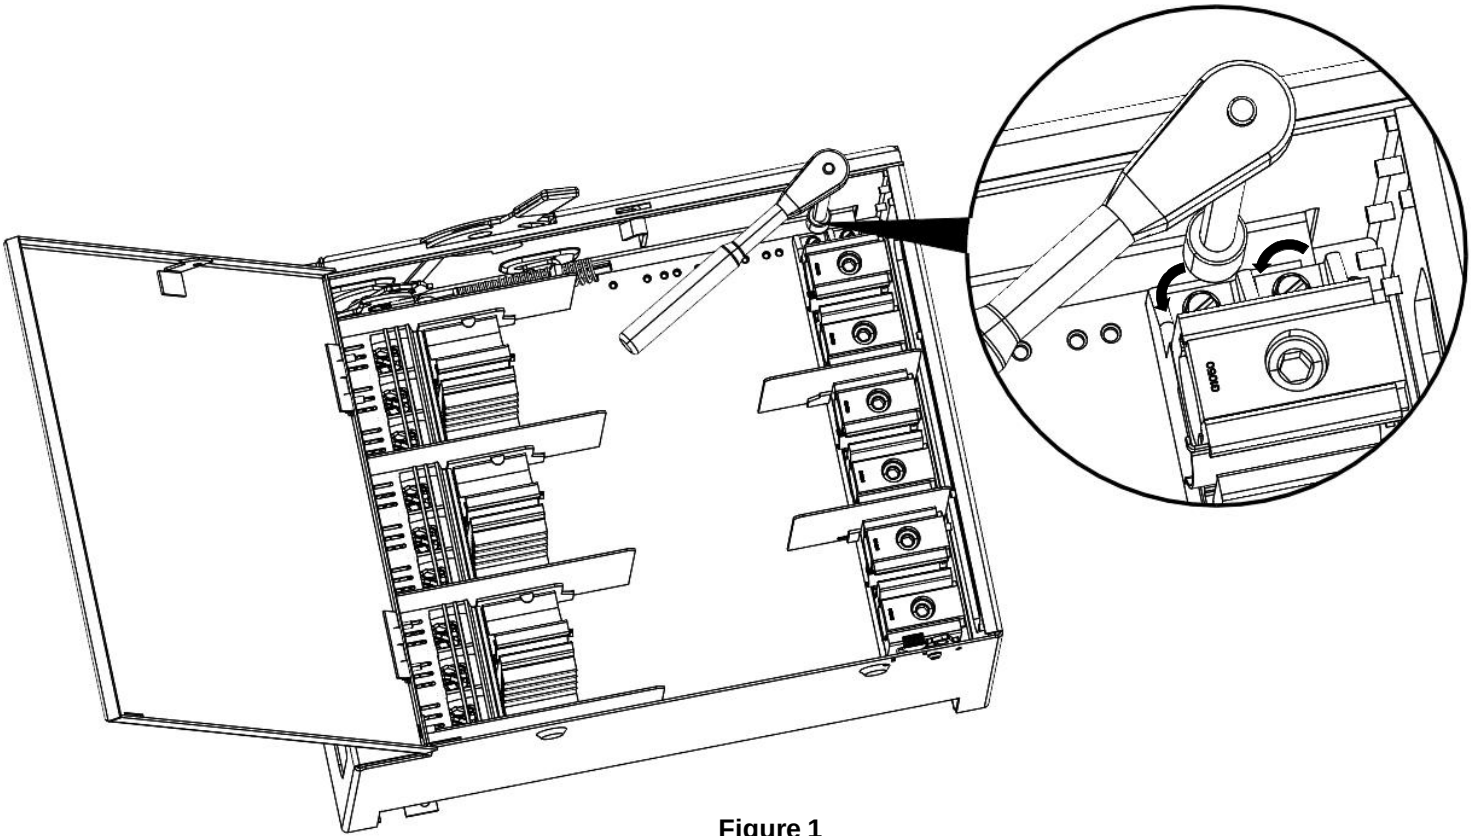

Figure 1
1. Open Cover, loosen four load base mounting screws as shown in Figs. 1 & 1a.